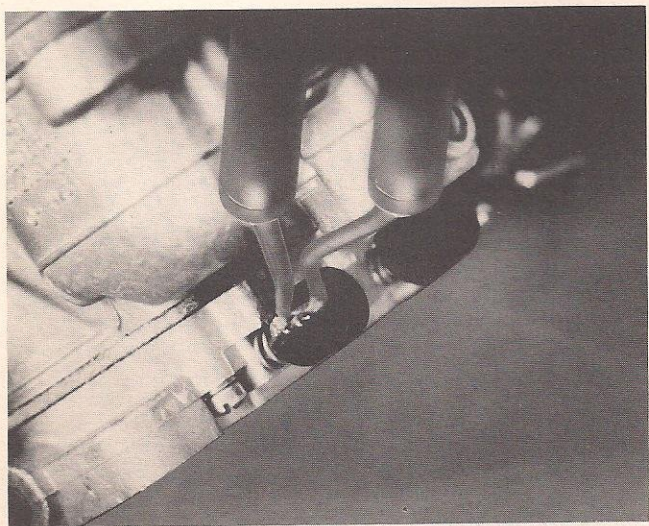

Figure 31, Removing Plastic Idle Limiter Caps
1. The idle limiter caps may be removed by using a soldering gun to melt through the plastic (figure 31). Or install a number 10 sheet metal screw in the center of the cap and turn it clockwise.